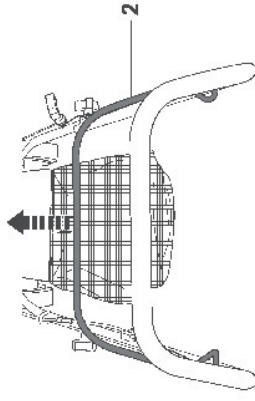

Fig. 14
Release the brake bar (2) to switch off the engine and stop the blade (Fig. 14).